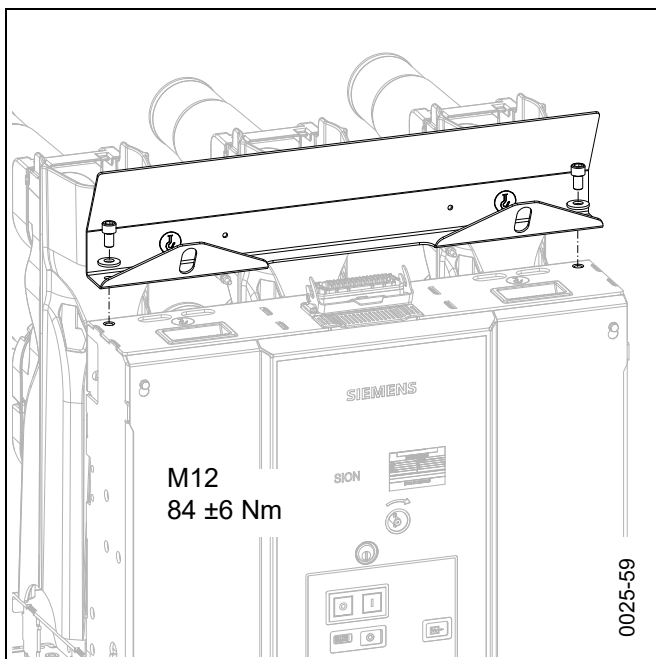

Fig. 65 Mounting the angled protective plate only for 24 kV 2000 A / 2500 A
- Fig. 65: Mount the angled protective plate (64) on top of the operating mechanism housing.